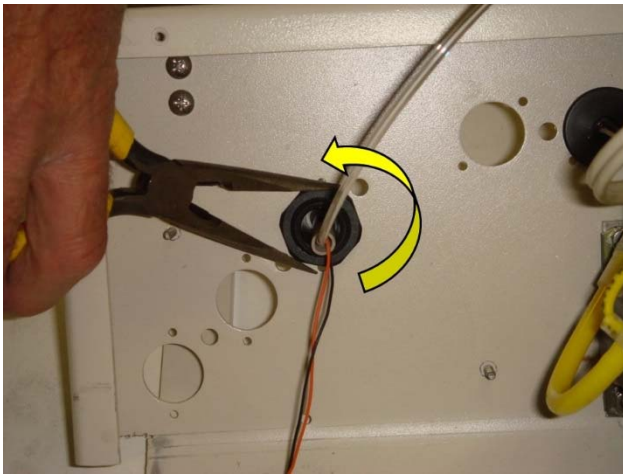
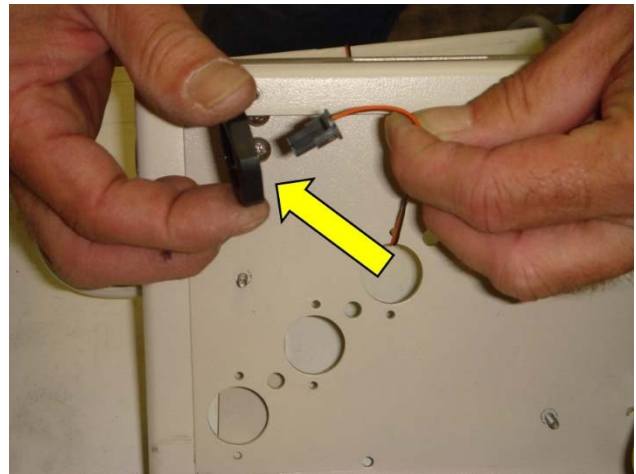

Fig. 5
Fig. 6
7. Locate the strain relief inside cart and loosen the black plastic nut with needle-nose pliers, turning counter-clockwise. (Fig. 5) Remove. (Fig. 6)